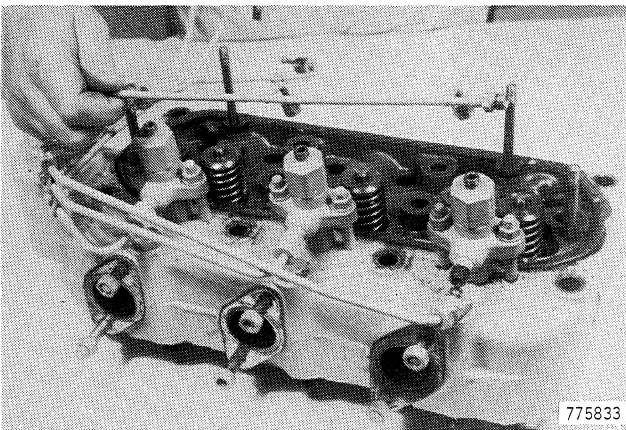

Figure 89
3. Remove the return tube, Figure 89.